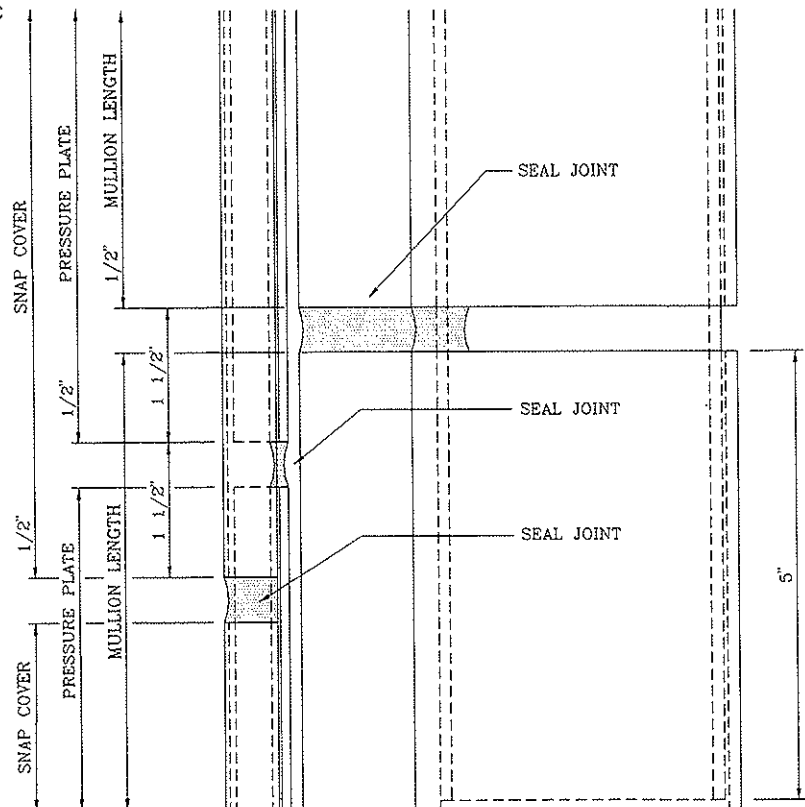

FIGURE 28
8. Stagger splice joints in mullions, pressure plates and snap covers. See figure 28.